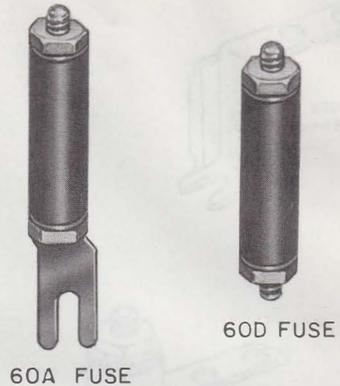
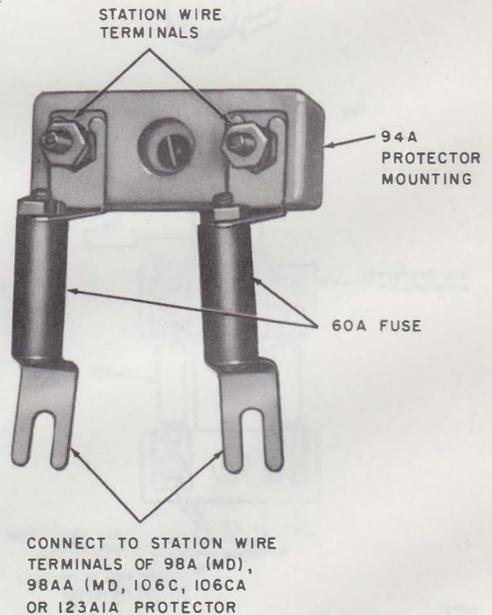
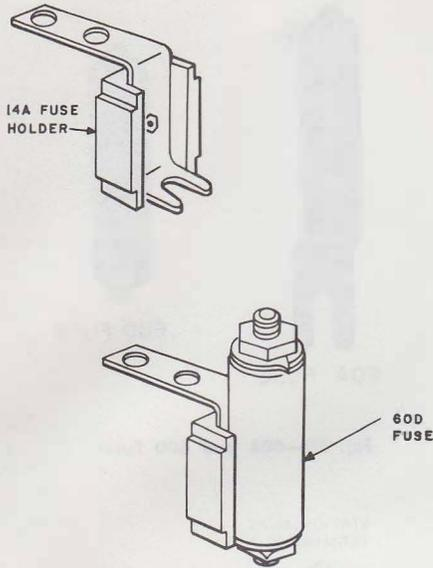
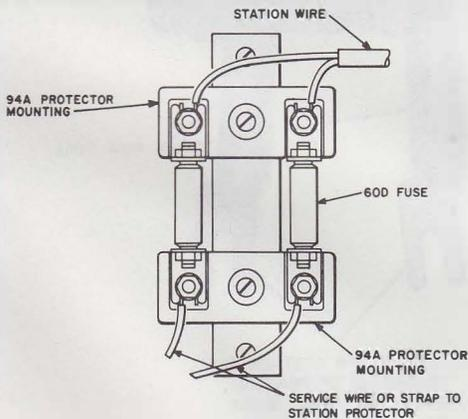

Fig. 76—60A and 60D Fuses
Fig. 77—60A Fuses Connected to 94A Protector Mounting
Fig. 78—14A Fuse Holder
Fig. 79—1094A Protector
10.04 The 60A and 60D fuses (Fig. 76) are rated 0.350 ampere and differ only in arrangement for mounting. The 60A fuse has a spade terminal and is used with the 94A protector mounting (Fig. 77). The 60D fuse is mounted in a 14A fuse holder (Fig. 78) or 1094A protector (Fig. 79).
10.07 The 1094A protector consists of a metal base with two No. 94A protector mountings and two 60D fuses (Fig. 79). When installed outdoors, the 1094A protector is mounted in a 93C protector mounting.
11.07 Fig. 79 shows the 1094A protector which may be used where station protectors are not required, used with 134A1A-type protectors, or used for ringing feeder circuits.